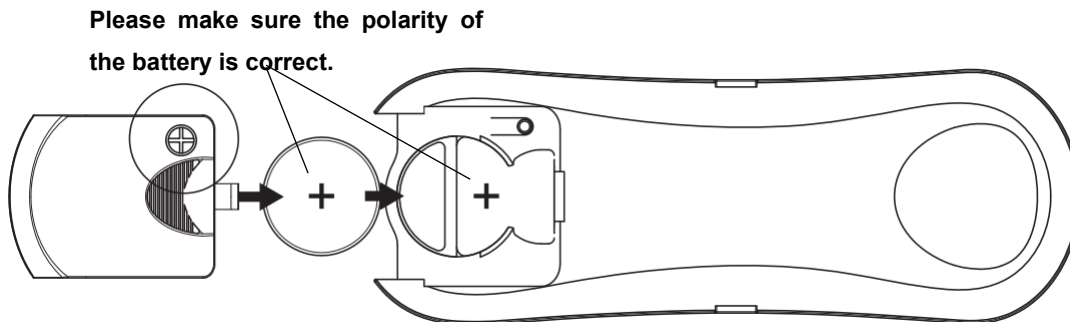

Fig. 13c
3. Install a new 3V CR2032 DC battery in the compartment. Please make sure the polarity of the battery is correct. (Fig. 13c)